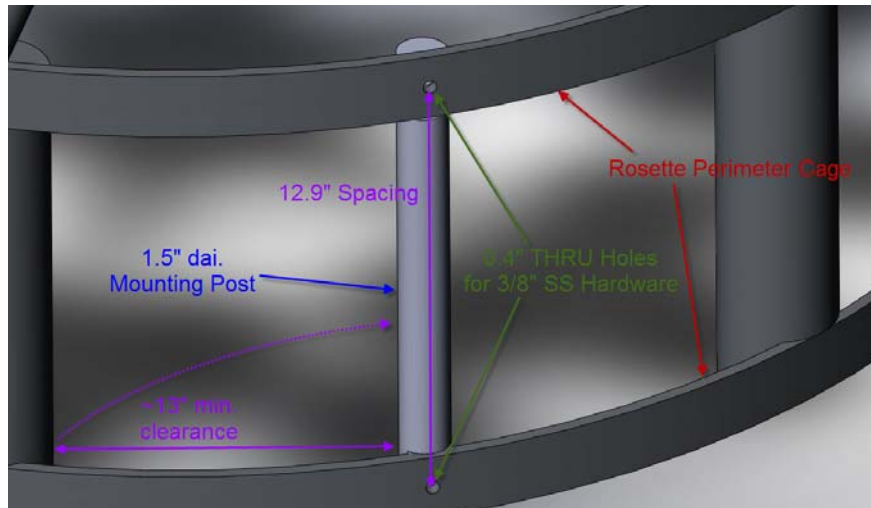

Figure 7: Placement of mounting post.
- 2) If mounting post is needed, install by drilling two, 0.4" dia. holes, spaced 12.9" vertically (Figure 7). Mount post to holes using stainless hardware (isolated if necessary).